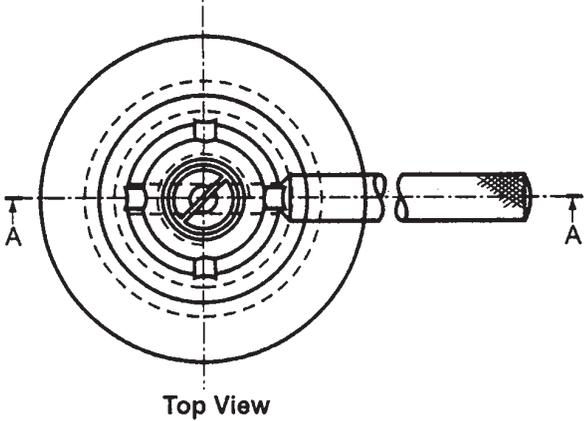

Fig. No. 8
5. Figure No. 8 shows assembly of screw Jack draw details of following :-